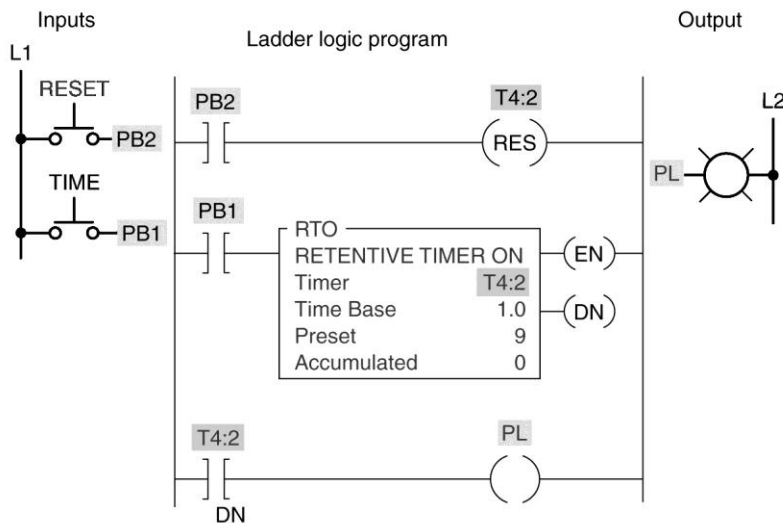

Figure 7-26 Retentive on-delay timer program for assignment 10.
10) Prepare an I/O connection diagram and ladder logic program to execute the retentive on-delay timer program shown in Figure 7-26. Enter the program into the PLC, and prove its operation.